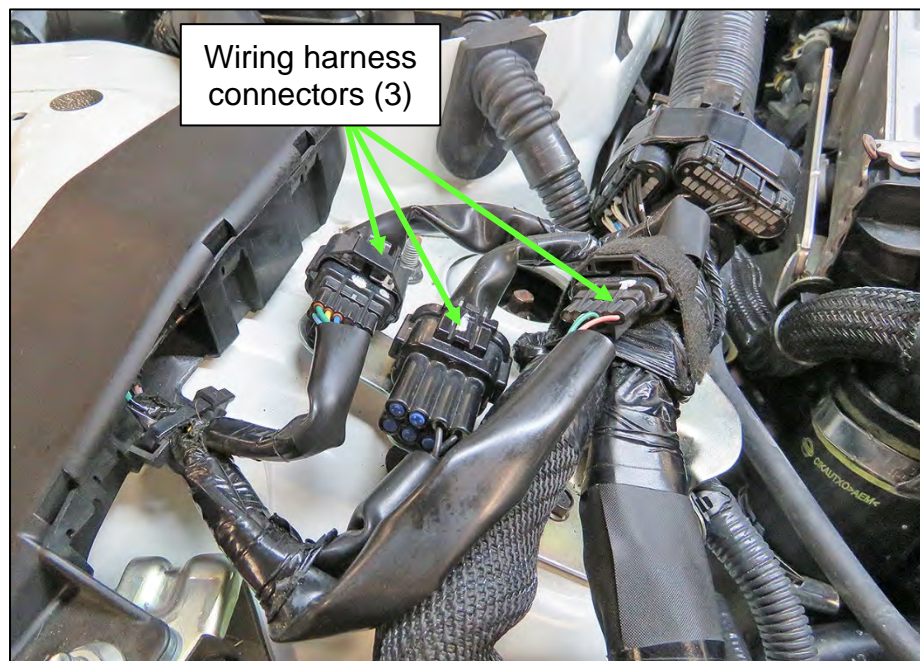

Figure 126
193. Reconnect the three (3) wiring harness connectors shown in Figure 126.